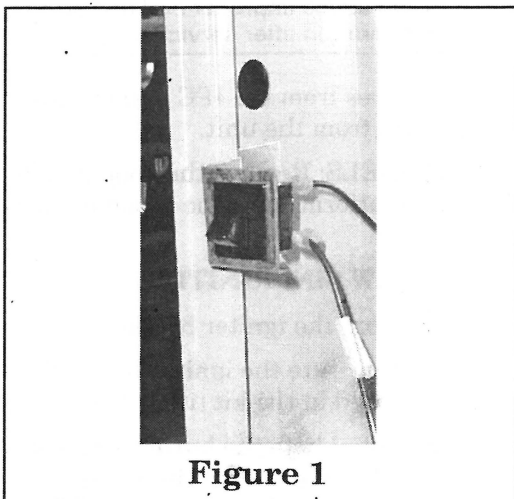

Figure 1
- C) Attach the door switch assembly (item #3 & 4) to the cabinet using the screws (item #5) provided in the kit. See Figure 1.